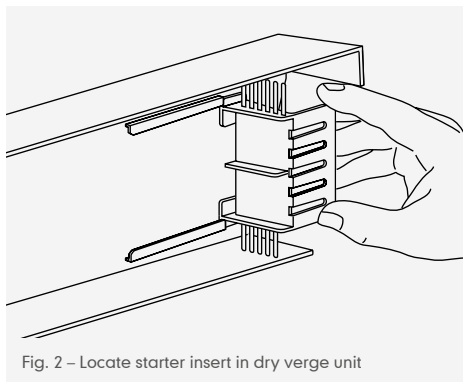

Fig. 2 – Locate starter insert in dry verge unit
- 5 Slide starter insert into internal fixing channels of dry verge unit, and position assembly over eaves roof tile into position at which it will be fixed (Fig. 2, page 144).